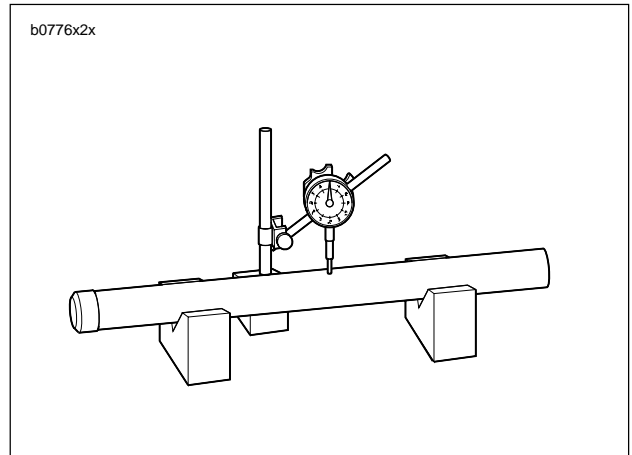

Figure 2-59. Pipe Runout
- Check the slide bushing (16) and the guide bushing (9) for excessive wear or scratches. Replace if damaged or worn.
- Replace the stopper ring (12) if distorted.
- Measure spring (7) free length. Replace springs shorter than service wear limit of 9.13 in. (232 mm).
- See Figure 2-59. Measure slide pipe runout. Replace pipe if runout exceeds the service wear limit of 0.008 in. (0.2 mm).